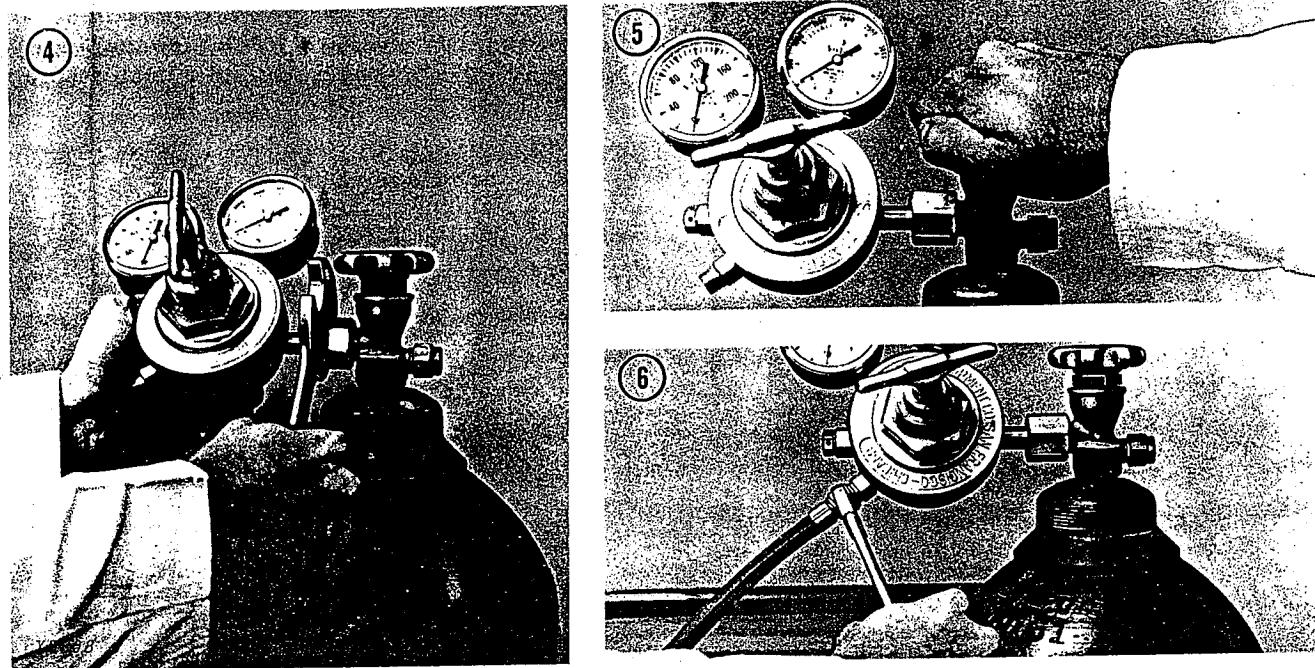

Fig. 11 — Setting Up Regulators
4. Be sure that the regulator inlet connection is absolutely clean and free of all traces of dirt, grit, grease, etc. Attach the oxygen regulator to the oxygen cylinder valve using an open end wrench (Fig. 11). Do not use excessive force but tighten the regulator connection nut firmly.